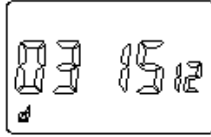

Figure 7
4.2.1.1 press “◀” to select the adjusted position, press “△” and “▽” to plus and minus, adjust the display date of the product to current date, such as current March 15 shall be set to “03: 15d”, see Figure 7. press "+" and "-" button by long time will automatically key acceleration, After setting, press “MD” to set holidays.